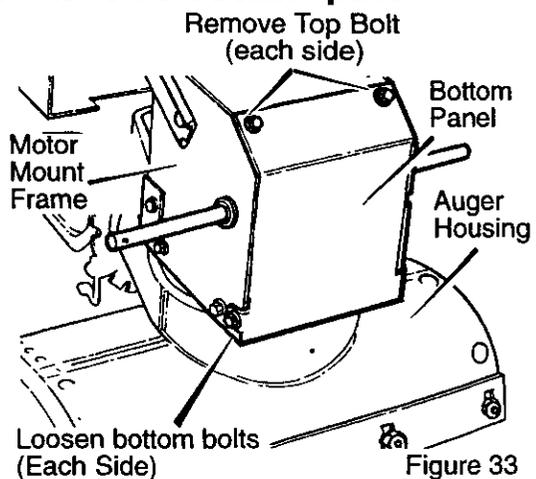

Figure 33
3. Remove the **bolts** on each side of the **bottom panel**. See Figure 33.
6. Install the **bottom panel**. See Figure 33.
3. Remove the **top bolts** on each side of the **bottom panel**. See Figure 33.
18. Install the **bottom panel**. See Figure 33.